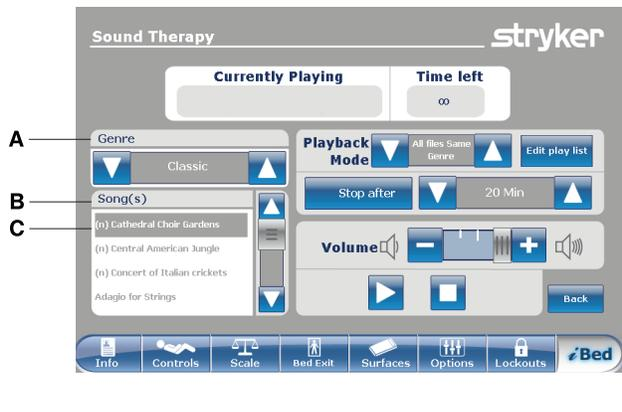

Figure 67: Sound therapy
2. Tap the up and down arrows to select a genre (A) (Figure 67 on page 71).
3. Tap the up and down arrows to scroll through the available songs in the **Song(s)** area (B) (Figure 67 on page 71).
Note: The song that is currently selected is highlighted in gray (C) (Figure 67 on page 71).
To return to the **iBed** main menu, tap **Back** (Figure 67 on page 71).
Tap **Edit playlist** (Figure 67 on page 72).